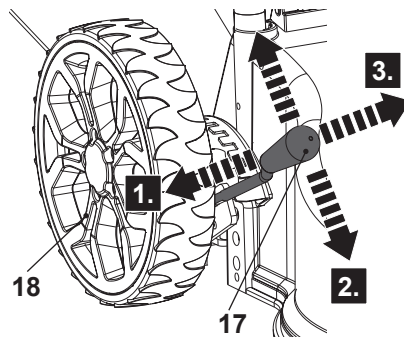

Fig. 14
1. Pull the lever for cutting height adjustment (17) towards the rear wheel (18) (Fig. 14, step 1), then move it forward or backward to the desired cutting height (Fig. 14, step 2).
2. Release the lever (17) and ensure it engages into place properly (Fig. 14, step 3).